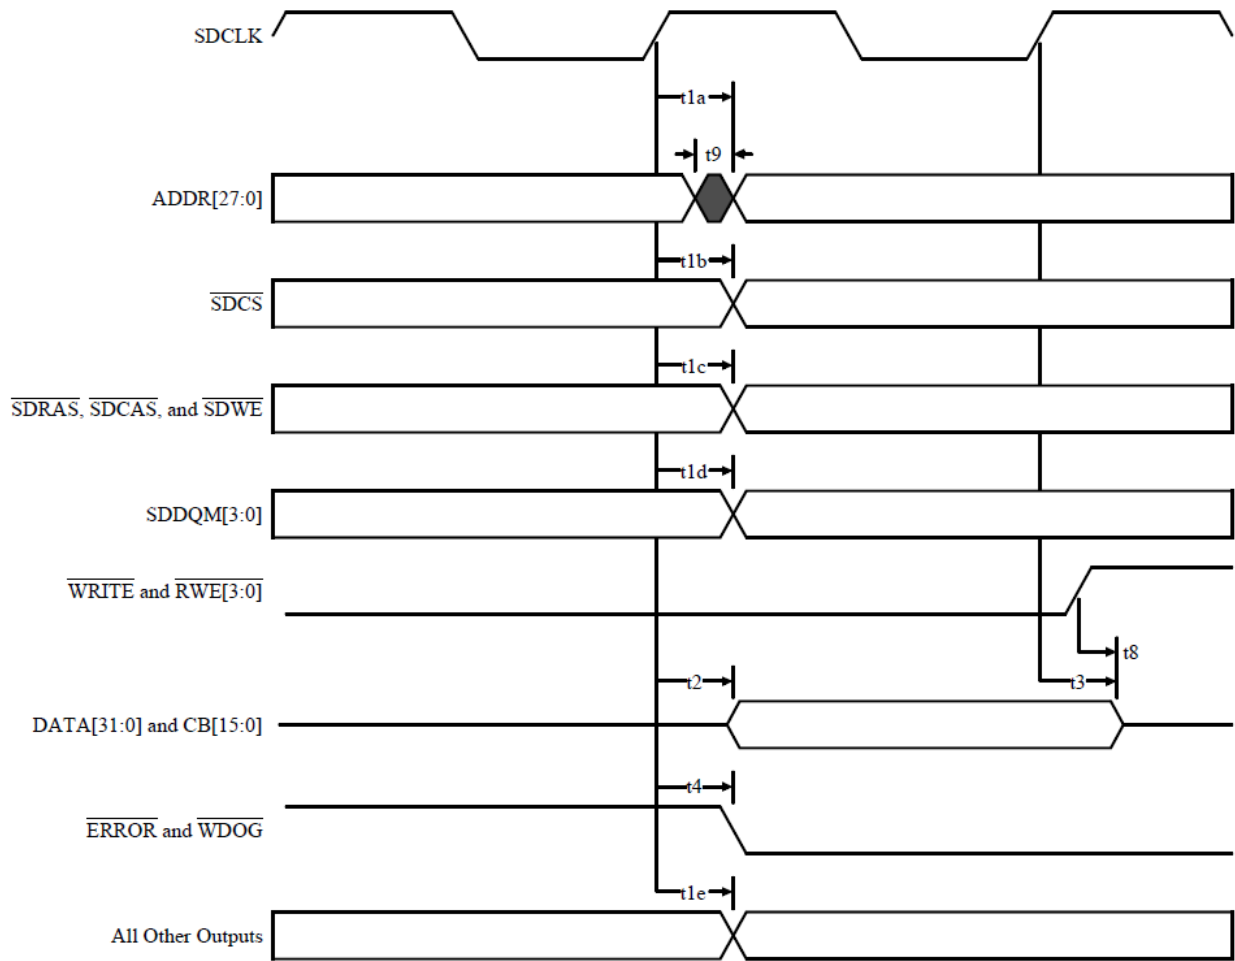

Figure 4:2: Memory Interface,  $\overline{\text{ERROR}}$ , and  $\overline{\text{WDOG}}$  Output Timing Diagram
1. All outputs are measured using the load conditions shown in Figure 4:14